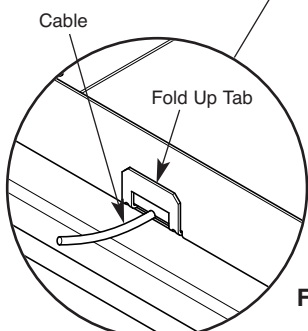

Fig. 37
7. With the tab pulled through the slot in the flange of the fire box, pull tight and bend the tab upwards to secure (Fig. 37).
8. Cut off the remaining cable flush with the front of the fire box or feed the cable back into the builders opening (Fig. 37).